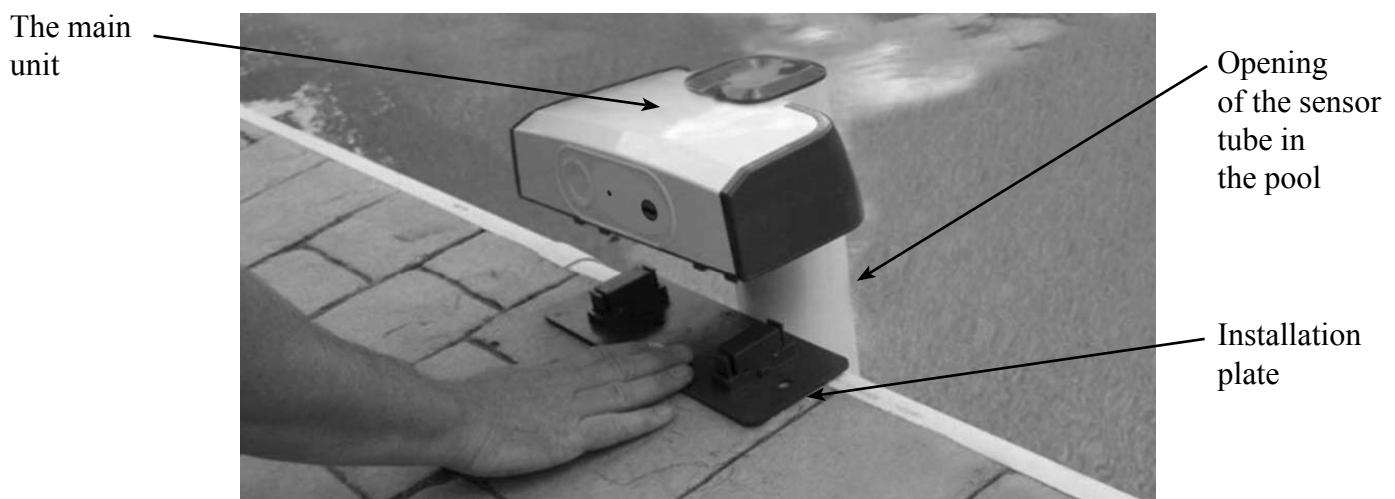

Figure 1
- 1.** Test the alarm (A) in the chosen location according to pool drawings included above. The opening of the sensor tube should be submersed as in the picture and the surface for the installation plate should be even and smooth. The alarm installation plate (B) should easily fit into the bottom part of the main alarm unit, so that the sensor tube is pointed directly into the pool at a 90° angle (see Figure 1).